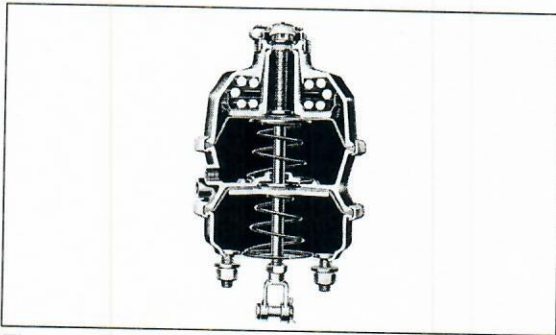
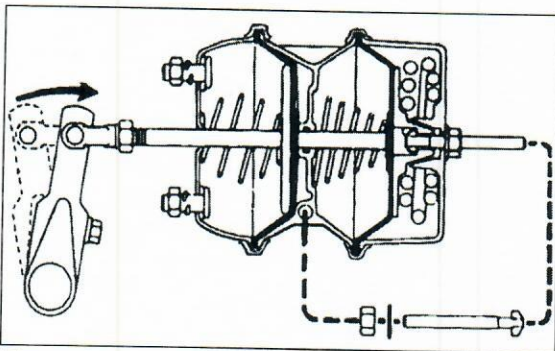

Figure 16
Figure 17
3. Determine whether the chamber has an internal (Figure 16) or external (Figure 17) caging tool. Proceed to step 4 with an external-mounted tool. See step 8 for internal types.